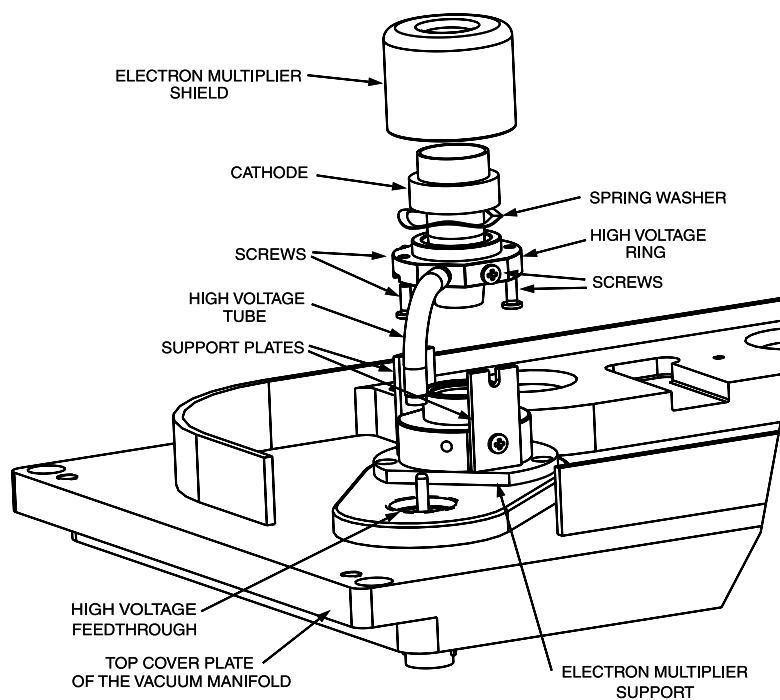

Figure 8-9. Exploded View of the Electron Multiplier, Showing the Cathode
4. Loosen (but do not remove) the two screws that secure the support plates to the high voltage ring. Figure 8-9 shows a detailed view of the electron multiplier.